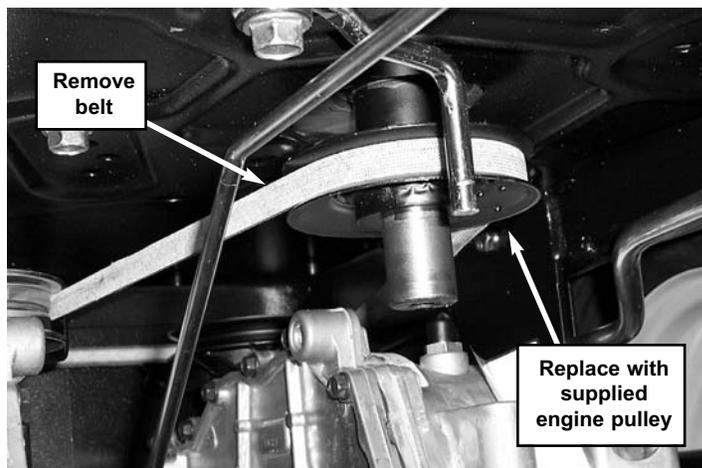

FIGURE 3
STEP 6: Remove the transmission belt from the engine pulley and the two transmission pulleys. See Figure 3.
STEP 7: Remove the engine pulley assembly from the engine shaft, and replace with the engine pulley assembly supplied with this kit. See Figure 3.